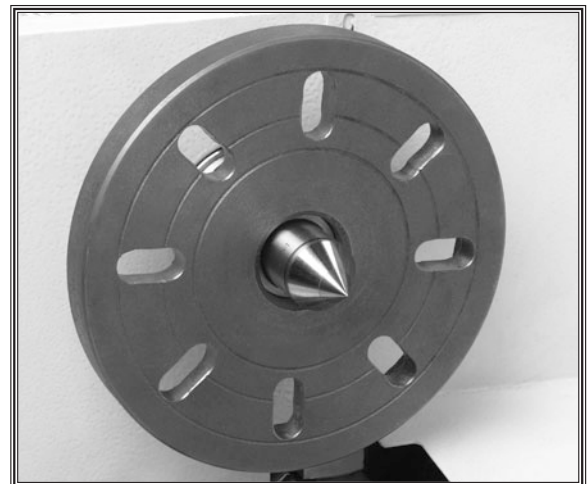

Figure 22. Faceplate and dead center setup.
4. Attach the faceplate to the spindle, see **Figure 22**. Refer to **Mounting Chuck and Faceplate** on **Page 16** for details if required.